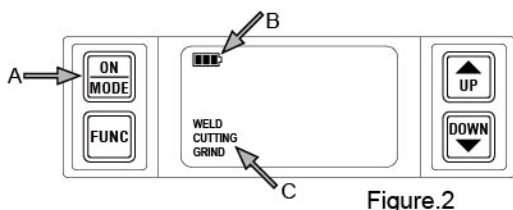
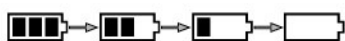

Figure.2
Figure.3
Press and release the **ON/MODE** button to check if the lens is working properly and to set the lens shade number, sensitivity, and delay (See Figure.2-A). Press and hold the **ON/MODE** button to power off and return the lens to the clear state. Do not use the helmet if the lens does not function as described.
Press and release the **ON/MODE** button to select the mode appropriate for the work activity (see Figure.2-A)
- **Weld Mode** – used for most welding applications. Press the **FUNC** button to adjust the shade number, sensitivity, and delay settings before welding (see Figure.2-C). In this mode, the lens turns dark immediately when you start welding.
- **Cutting Mode** – used for cutting applications. Press the **FUNC** button to adjust the shade number, sensitivity, and delay settings before cutting (see Figure.2-C). In this mode, the lens turns dark immediately when you start cutting.
- **Grind Mode** – used for grinding applications. In this mode the shade is fixed (shade No. 4). The shade number, sensitivity, and delay settings cannot be adjusted (See Figure.2-C).
The battery level symbol (see Figure.2-B and Figure.3) shows the current state of the battery. The symbol first appears when 1–2 days of battery life remains. The symbol is not real-time; to update the symbol, press and release the **ON/MODE** button.